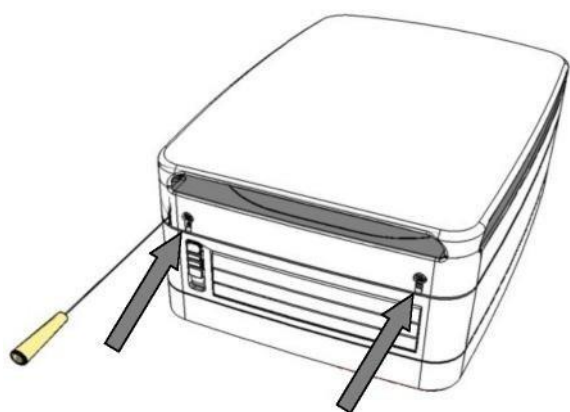
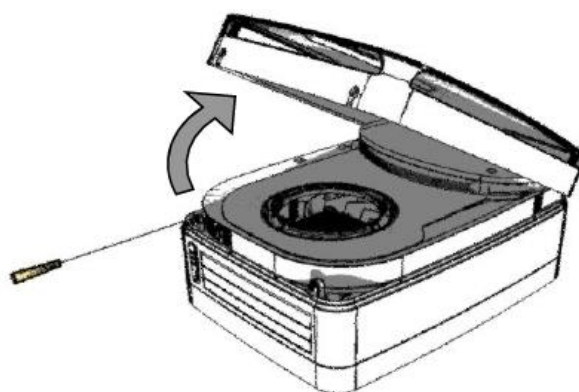

Figure 25
Figure 26
1. Unscrew the two screws (Figure 25) then lift the cover plate (Figure 26).